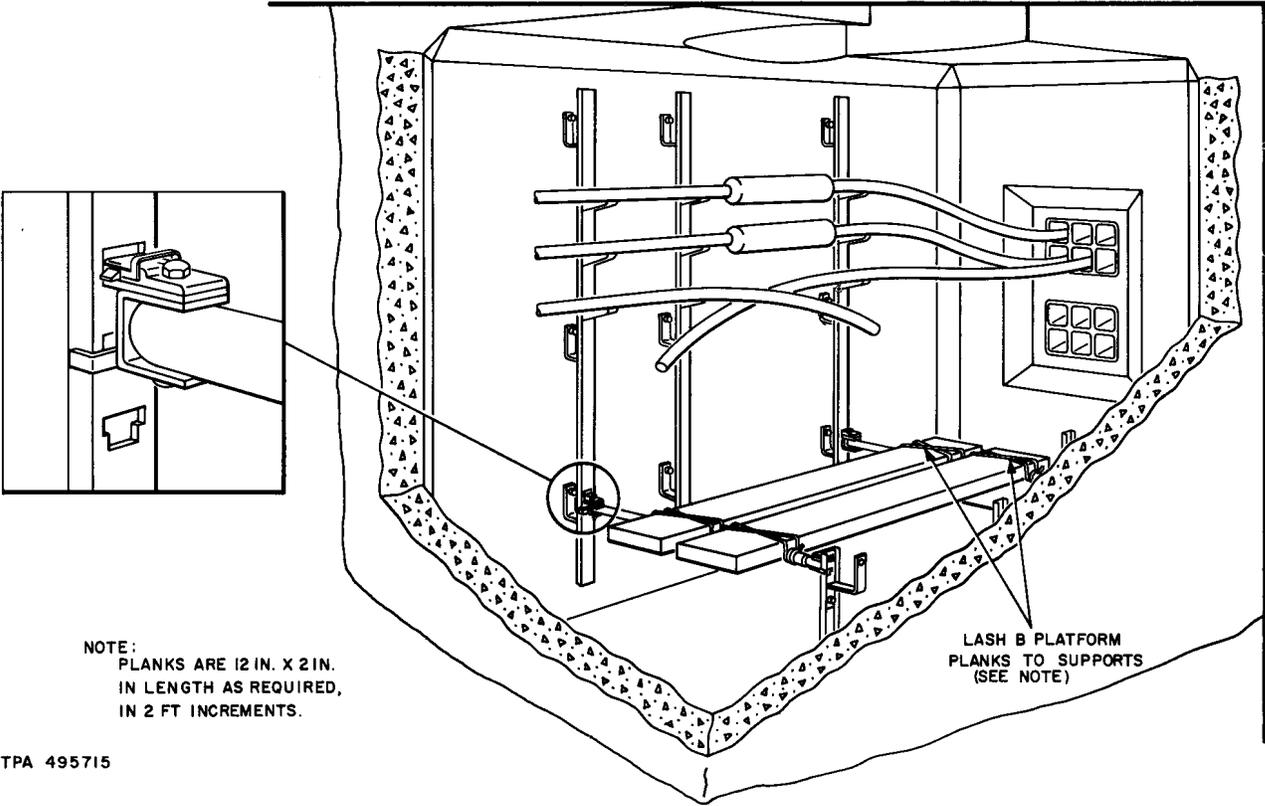

Fig. 4—Platform Supports in Place in Manhole
3.02 A typical use for these supports is illustrated in Fig. 4.